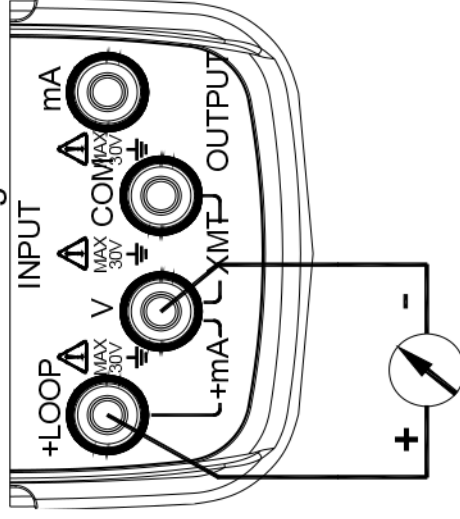

Figure 5-1
- 1) Insert one end of the test leads to the + mA – output jack (OUTPUT) of the Instrument and connect the other end with the input of the user's Instrument as shown in Figure 5-1:
- 1) Connect to the Instrument as shown in Figure 5-1;
- 3) Press the key (25%/RAMP) and the symbols 'f', and 'π' will appear;
- 6) Repress the key (25%/RAMP) so as to exit the step current output.
- 3) Press the key (100%/START) and the symbols 'F', 'π', '0', 'FS' will appear in the display;
- 5) Repress the key (100%/START) so as to exit the step current output.
- 1) Connect as shown in Figure 5-1;
- 4) Repress the key (25%/RAMP) again so as to